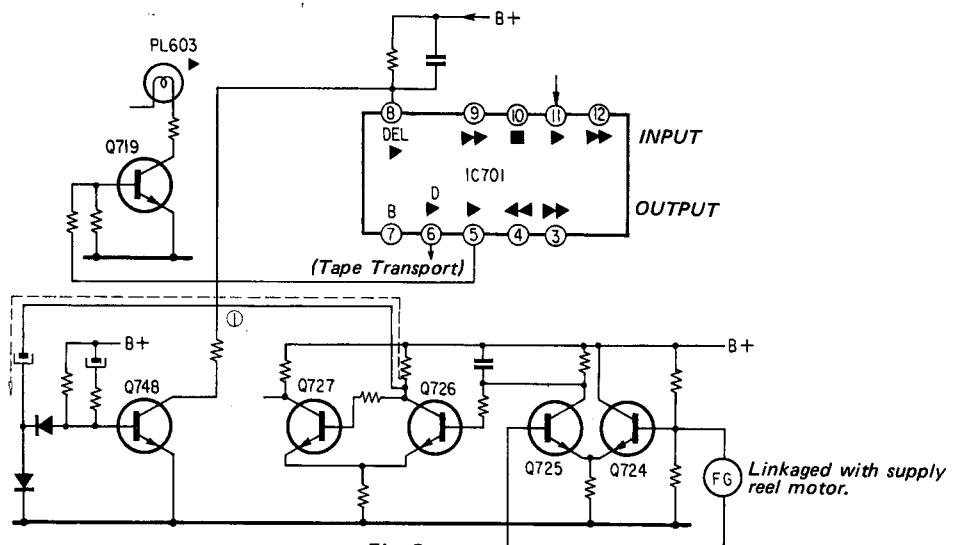

Fig. 2
**2. Action when switched from Fast Forward (►►) or Rewind (◀◀) to Forward (►). (Refer to Fig. 2)**